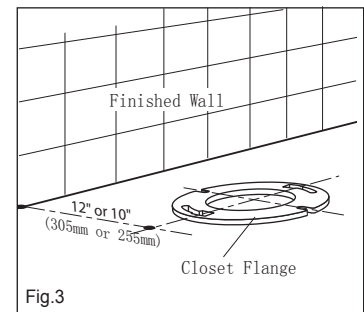

Fig.3
1. It is important for the installation of Sydney Smart II 1 PC Washdown toilet that the closet flange be accurately set out from the finished wall as detailed in Fig.3.